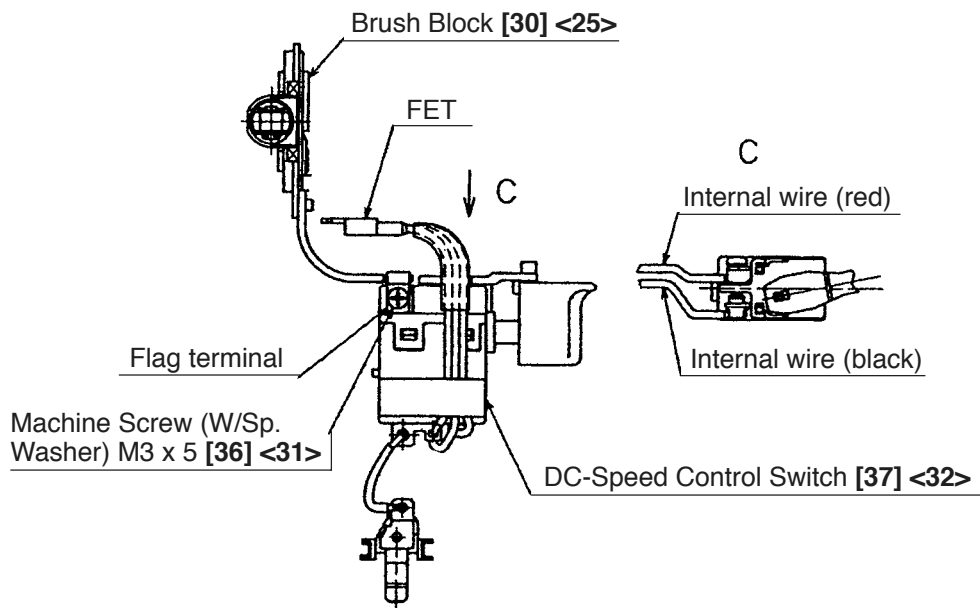

Fig. 12
- (a) Be sure to follow the wiring diagram (Fig. 12) for proper wiring.
- (b) When connecting the internal wires of the Brush Block [30] <25> to the DC-Speed Control Switch [37] <32>, fasten them with the Machine Screws (W/Sp. Washer) M3 x 5 [36] <31> paying attention to the direction of the flag terminal (Fig. 12).